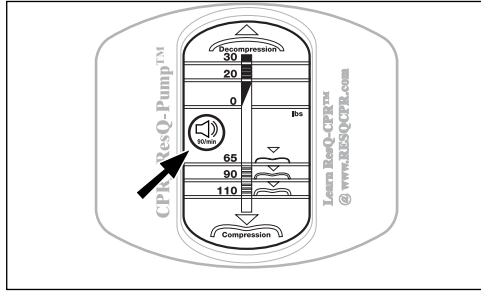

Figure 8
Check the force gauge at regular intervals to ensure that you are delivering the appropriate forces necessary to compress and decompress. Use the metronome as a guide for compressing and decompressing at the rate of 80/min. This is slightly slower than the rate recommended for standard CPR to allow sufficient time for blood return to the chest. Start and stop the metronome by pressing the red button on the force gauge (**Figure 8**). Perform compression on one tone and decompression on the other. To avoid fatigue, rescuers should take turns performing the compression/decompressions, changing every 3 to 5 minutes.
3. Check to make sure the force gauge reads zero (**Figure 8**) when no force is applied. If it does not, see instructions for gauge calibration.